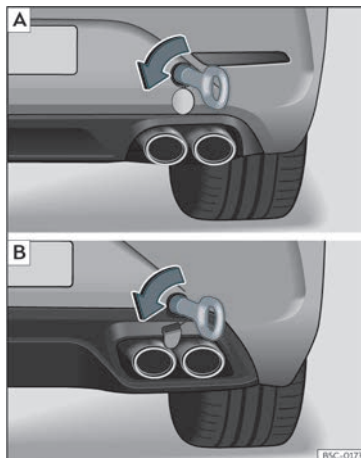

Fig. 50 On the right side of the rear bumper: towline anchorage in position. [A] Leon Sportstourer; [B] Leon.
- Screw the towing eye in the housing by turning it to the maximum **anticlockwise** >>> **Fig. 50** >>> ❶. Use a suitable object that can completely and securely tighten the towing eye in its housing.
❶ CAUTION